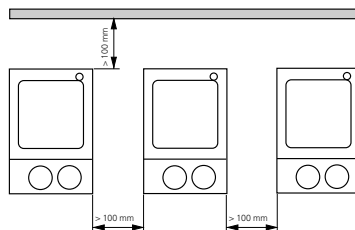

Fig. 2
• Observe the minimum distances between devices, between the device and the wall as given in the Fig. 2 and above the assembly (min. 800mm)